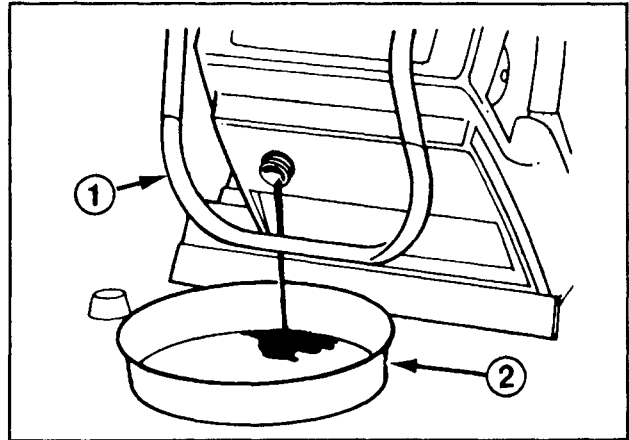

Fig. 16
1. Drain fuel from fuel tank. (Fig. 16).
1. DRAIN GASOLINE (Fig. 16) — Remove fuel tank cap from snowthrower. Carefully tip unit forward and allow fuel to drain into a wide pan. Tip unit upright and install fuel tank cap. Wipe up any spilled fuel and store fuel in approved container.